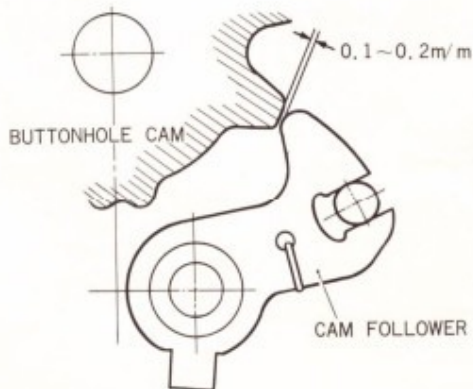

Fig. 22
3. Check to see if follower tip clears buttonhole cam contour by 0.1 to 0.2 millimeters, as shown in Fig. 22.